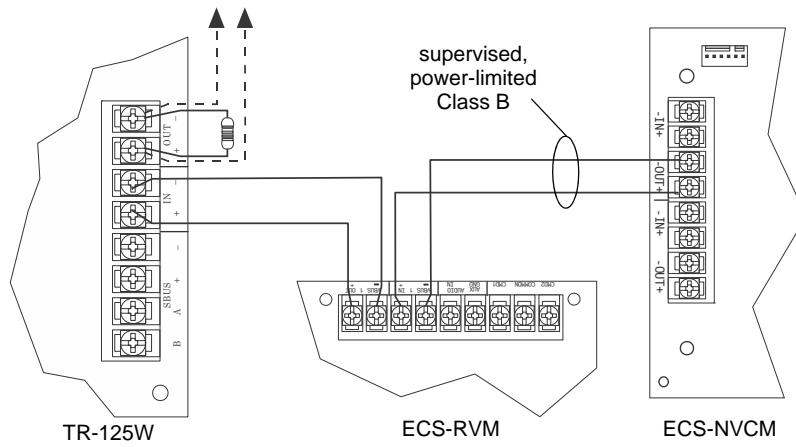

Figure 4.55 VBUS and TR-125W Wiring for ECS-RVM using the ECS-NVCM
4. Connect the ECS-RVM to the VBUS, TR-125W, and ECS-NVCM as shown in Figure 4.55.
3. Disconnect any devices connected to the VBUS. Refer to Figure 4.55.